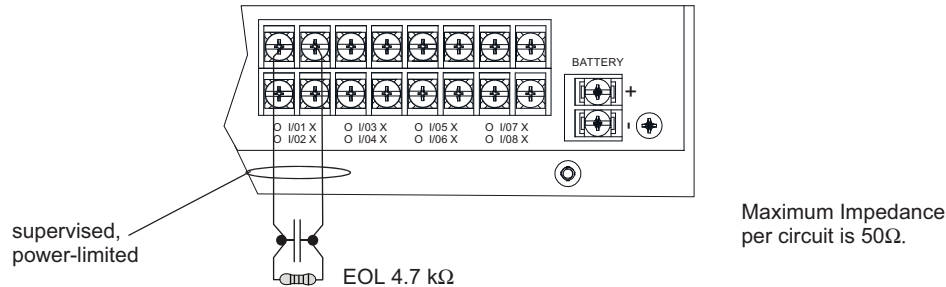

Figure 4.48 Class B Input Switches
- Wire the Class B switch as shown in Figure 4.48.